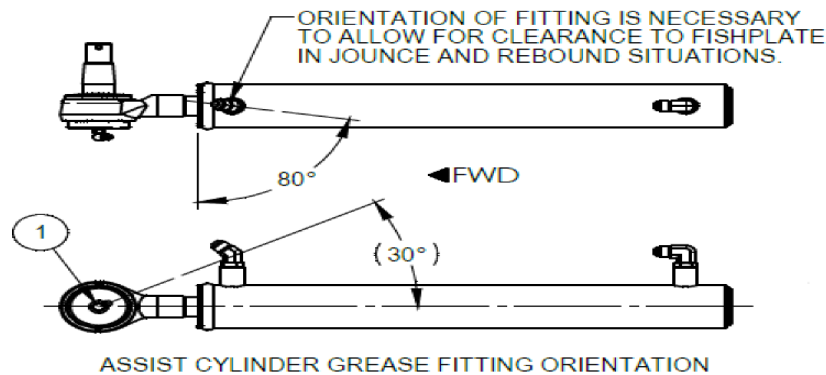

Figure 6.2
- b. Install 90° grease zerk (0346-BB1-001) into frame mounted end of assist cylinder, oriented as shown in Figure 6.2. Reinstall steering assist cylinder ball studs into new mounting bracket and steering arm. Install castle nuts snug.
- f. Verify correct orientation of fittings on the assist cylinder before reconnecting hoses. *See Figure 6.2*